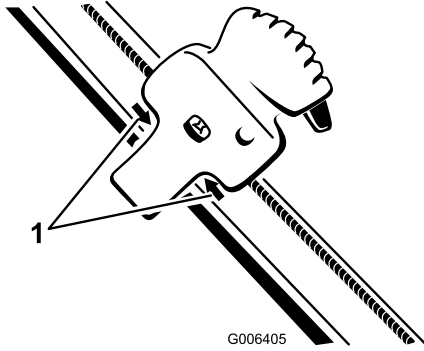

Figure 40
2. Position the Quick Shoot control between the two arrows located on the right hand side of the upper handle (Figure 40).